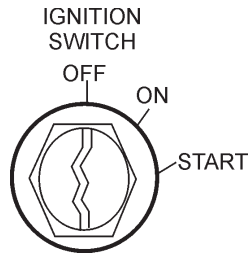

Figure 22. Ignition Switch
- Insert the ignition key into the ignition switch (Figure 22), turn the key to the **ON** position, then to the **START** position, release the key when the engine starts.
- Turn the ignition key (Figure 22) to the **OFF** position.